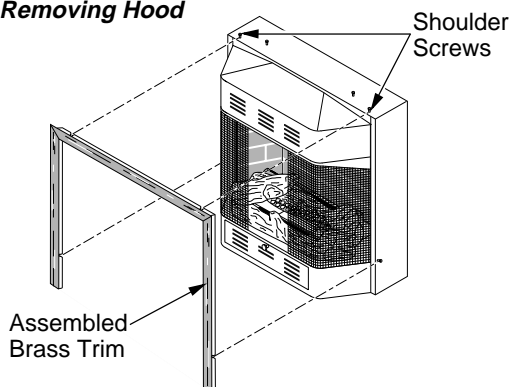

Figure 13 - Attaching Brass Trim to Fireplace
- Place brass trim on the shoulder screws located on the side and top of the fireplace. Firmly snap the brass trim over the shoulder screws on fireplace (see Figure 13).